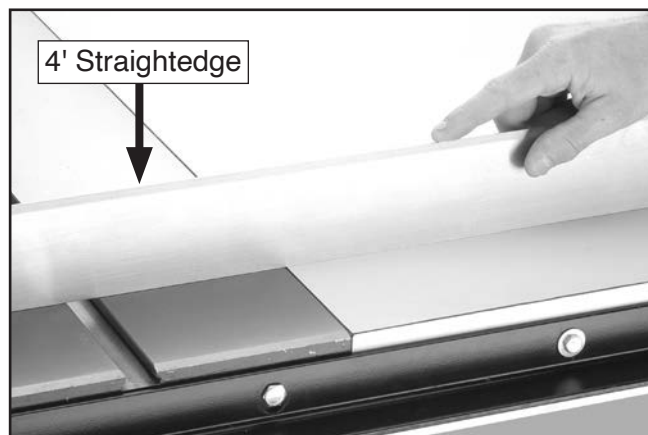

Figure 17. Example of using a straightedge to check alignment.
23. Use a 4' straightedge to verify extension table is flush with extension wing and saw table, and is even along its entire length (see **Figure 17**).